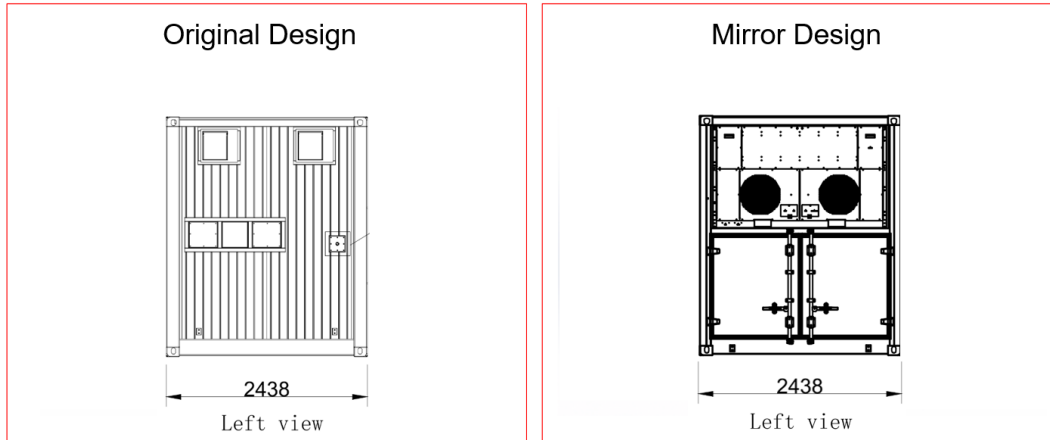

Figure 13 –The chiller mirror design
①Chiller mirror design (shown as figure 13), the supplier to re-provide certification (product materials, key device, performance, functionality without change)